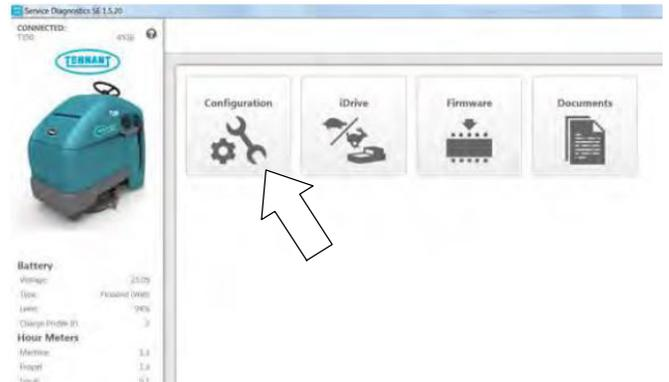

Fig. 26
- From the Home screen, press the Configuration button (Figure 26).